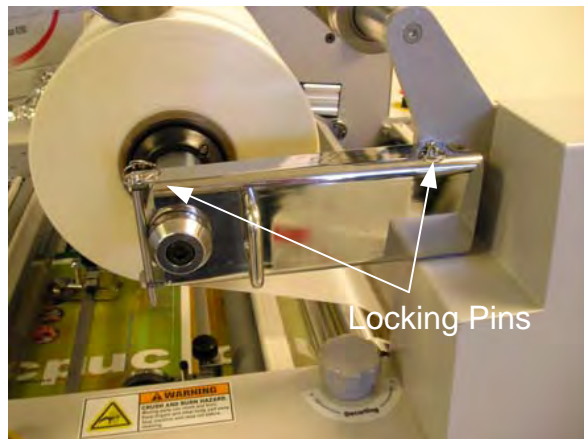

Figure 1
- Pull the **Locking Pins** out of the **Film Shaft Support Bracket**. (Figure 1).